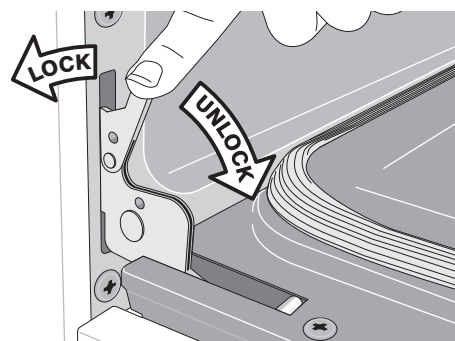

Figure 45: Door hinge locks
2. Pull the door hinge locks on both left and right door hinges down from the oven frame completely toward the oven door (See Figure 45). A tool such as a small flat-blade screwdriver may be required.
4. Push the door hinge locks up toward and into the oven frame on both left and right oven door hinges to the locked position (See Figure 45).